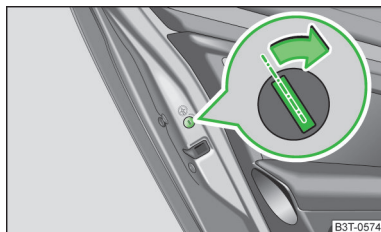

Fig. 34
- Turn the slot of the safety lock in the direction of the arrow » Fig. 34 (the other way around on the right-hand door).
- Turn the slot of the safety lock in the opposite direction to the arrow » Fig. 34 (the other way around on the right-hand door).